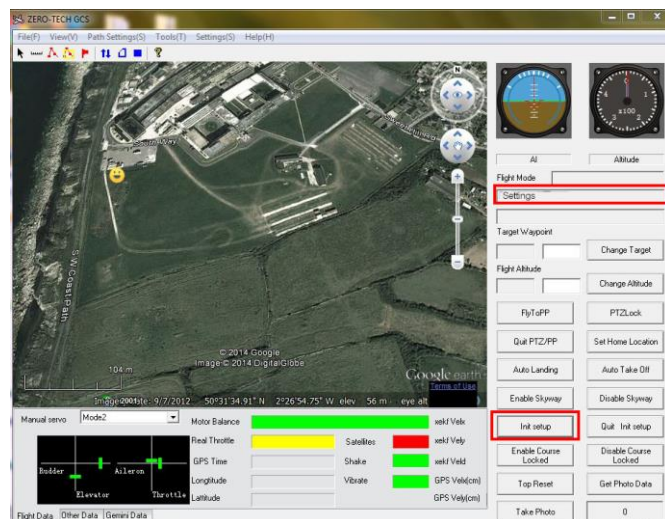

Figure 34
2. Click "Init Setup" in "Setting" page. Click "Confirm" button in the dialog box. Now the "Flight Mode" should be displaying as "Settings" in the Data screen of the GCS, as shown in Figure 34.